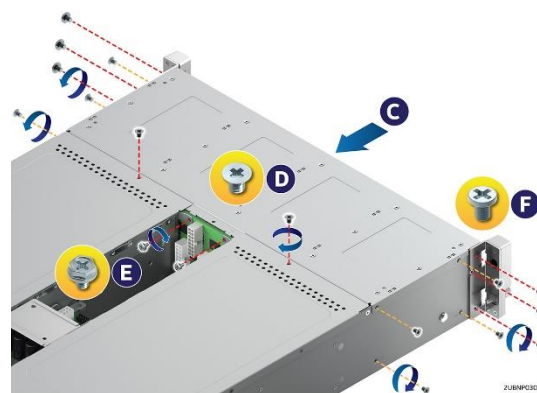

Figure 48. Installing the chassis drive cage
3. Fix the drive cage assembly to the chassis by using the screws (D, E, and F) as shown in Figure 48.